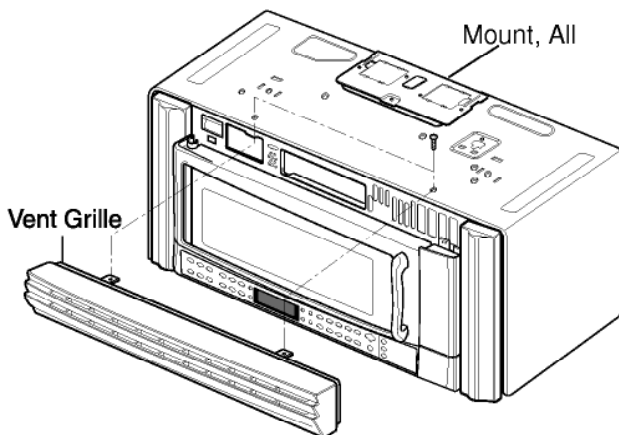
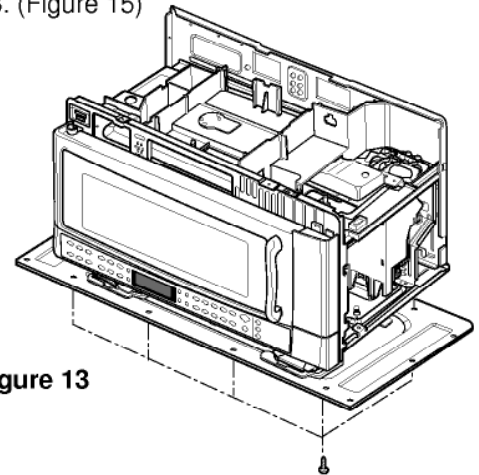
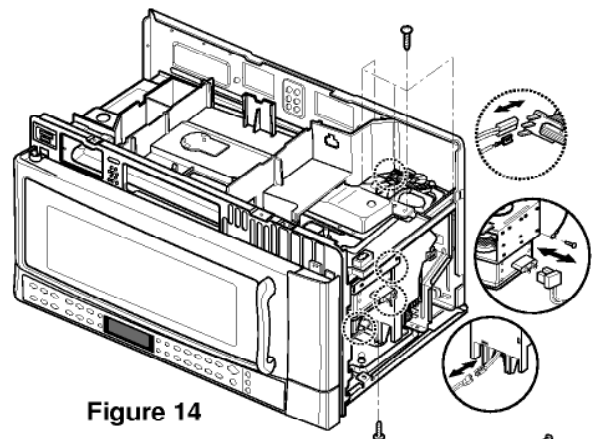
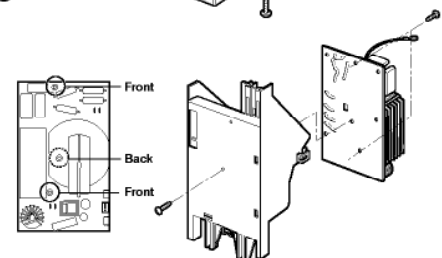

Figure 11
Figure 13
Figure 14
Figure 15
(Figures 11 Through 12)
- (1) Remove the vent grille by loosening two screws. (Figure 11)
- (2) Remove the outcase and inner cover. See page 7-5.
- (3) Remove four tap tite screws securing the magnetron to the wave guide.
- (4) Remove the magnetron VERY CAREFULLY.
(Figures 13 Through 15)
- (3) Remove the base plate by loosening four screws. (Figure 13)
- (4) Disconnect two leadwire of the fan motor assembly.
- (5) Disconnect the leadwire of the inverter PCB and H.V. cable of the magnetron.
- (6) Remove the earth wire screw.
- (7) Remove three screws securing to duct assembly and two screws securing to fan guide. (Figure 14)
- (8) Remove the screw securing to inverter module assembly.
- (9) Push the inverter guide hook and out the inverter module assembly lifting up duct assembly.
- (10) Open the upper inverter guide.
- (11) Remove three screws securing to PCB and pull out PCB. (Figure 15)